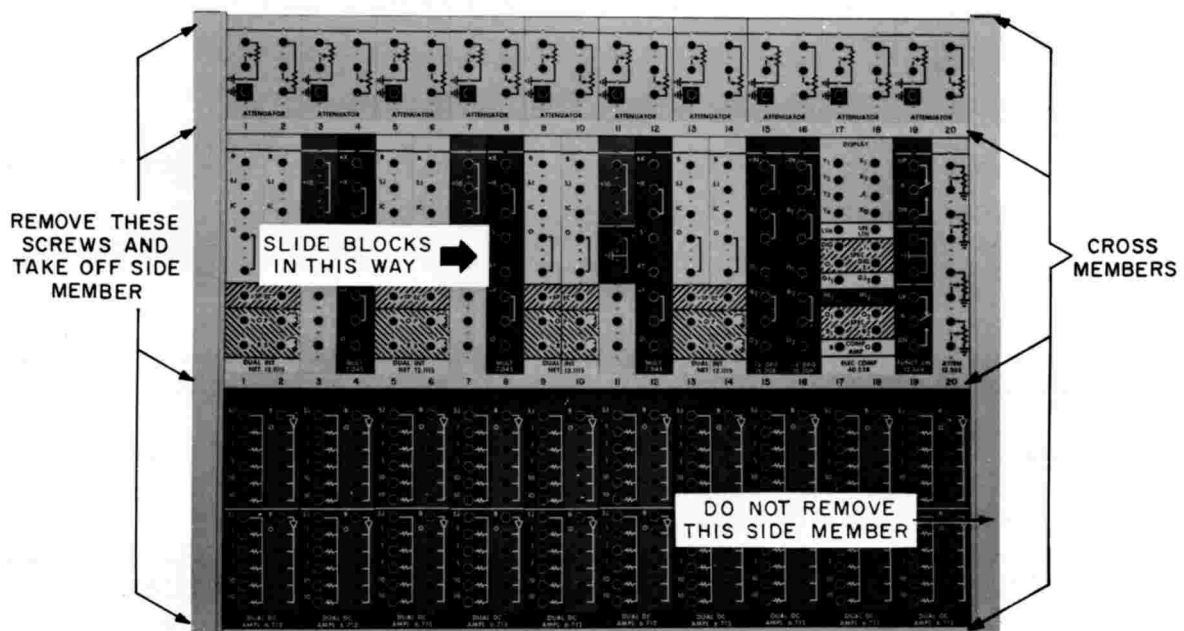

Figure 5. Installation of Patch Blocks in Pre-Patch Panel
a. Lay the pre-patch panel on a flat surface. Remove the four hex head screws from the left side. (See Figure 5.)